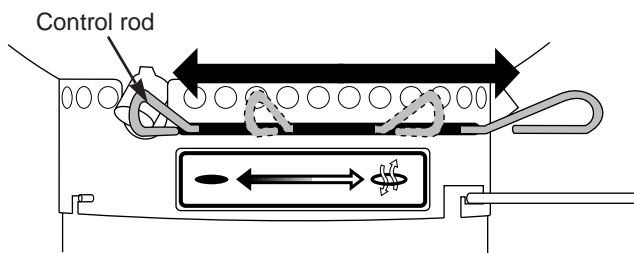

Figure 1
- 2) Clear bowl of ashes by moving the control rod side to side. Figure 1.